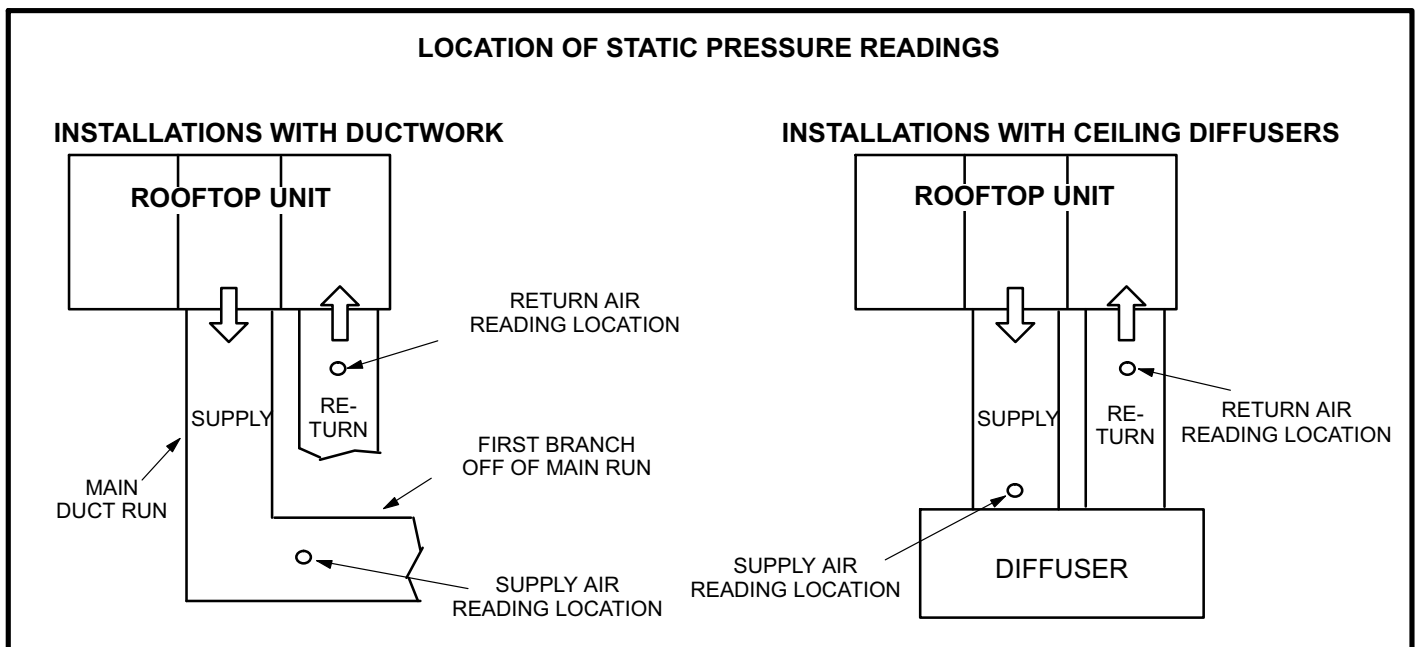

FIGURE 10
- 2- With all access panels in place, measure static pressure external to unit (from supply to return). Blower performance data is based on static pressure taken in locations shown in figure 10.